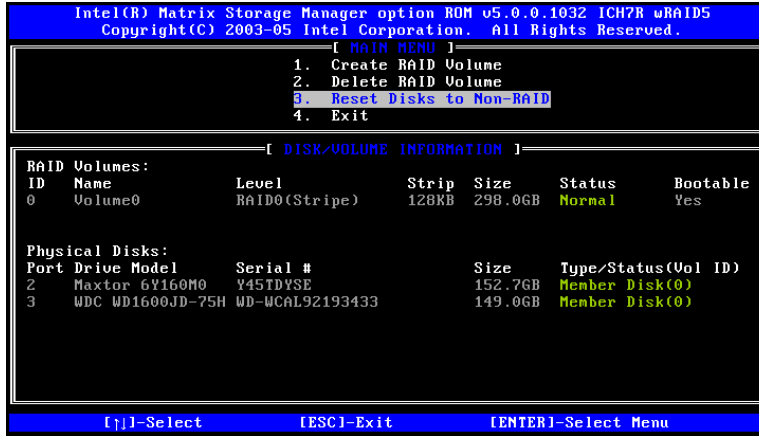

Figure G-12: Reset Disk to Non-RAID Menu
Step 1: Select “Reset Disk to Non-RAID.” Use the arrow keys to highlight **Reset Disk to Non-RAID** and press **ENTER**. See Figure G-12.